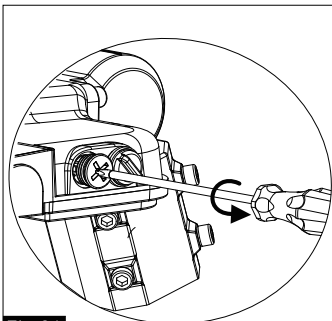

Fig.21
- Remove the philips screw cover by screwdriver (Fig.21).